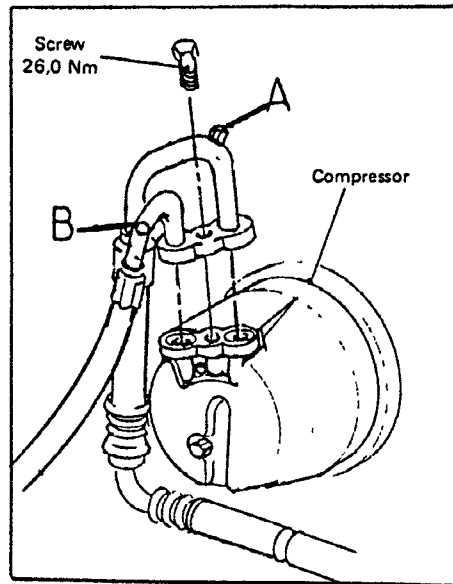

Fig. 78
1. Red hose from MKM — 721 to high pressure service connection (B).
2. Blue hose to low pressure service connection (A). (Fig. 78).